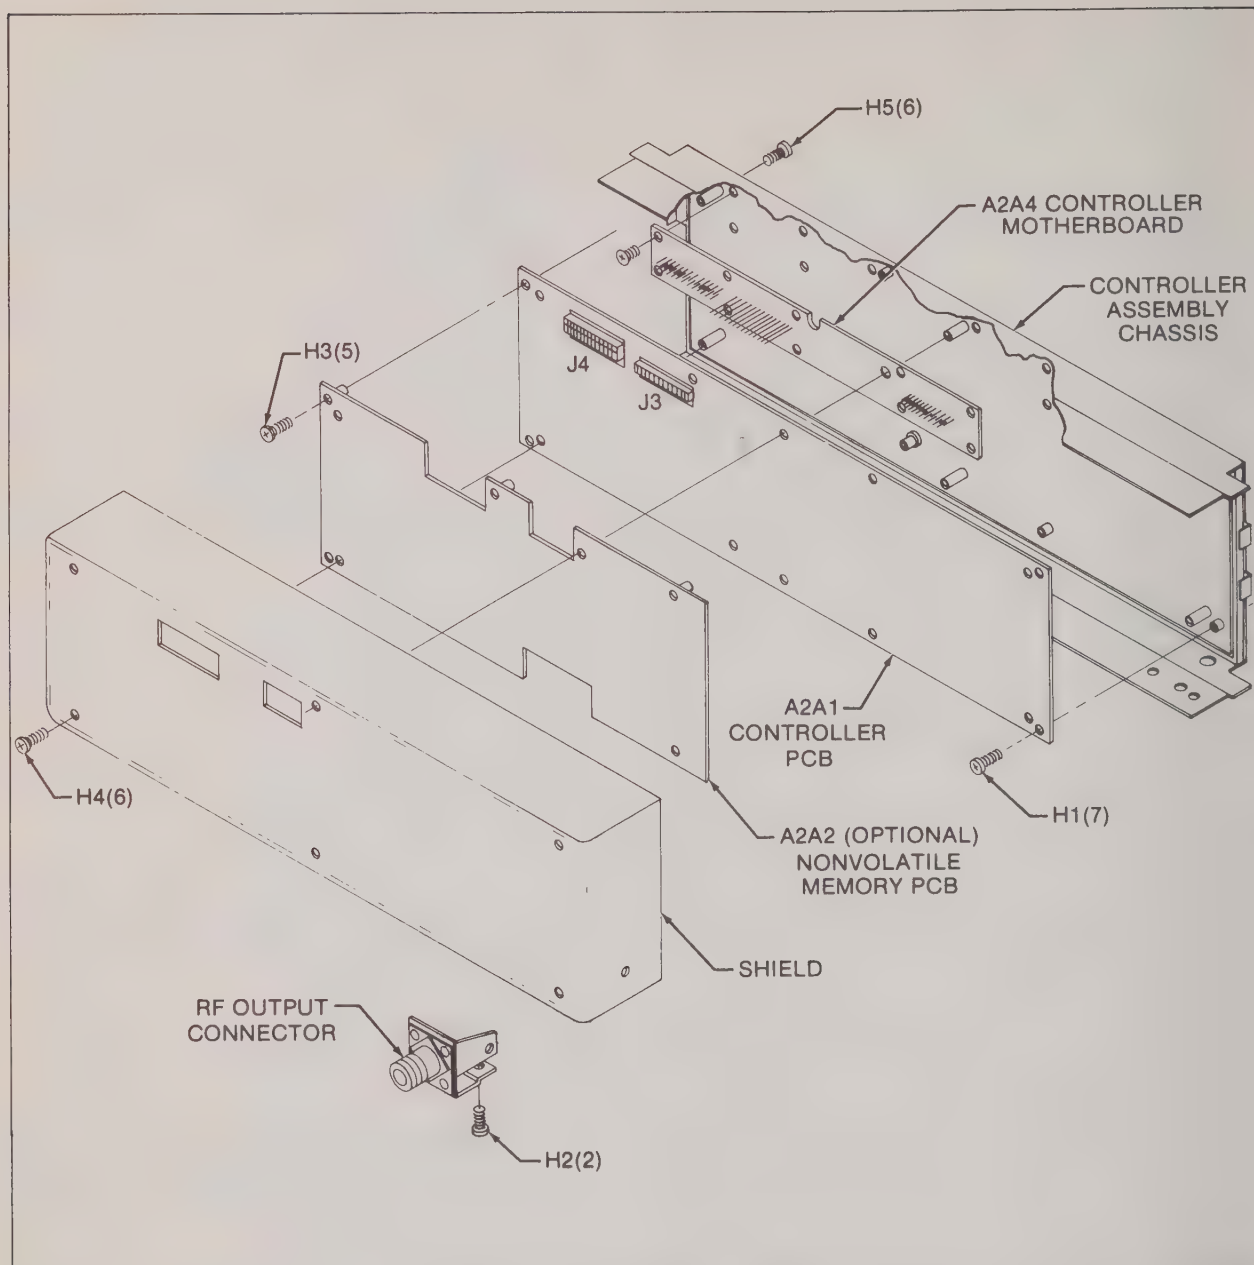

Figure 3-16. Controller Assembly
3. Disconnect the cables from J3 and J4 on the Controller Assembly (Figure 3-16).
4. Remove the RF OUTPUT connector from Controller Chassis Assembly (Figure 3-16).
5. Remove the six screws (H4) from the shield and lift the shield away from Controller Assembly (Figure 3-16).
6. If the unit contains the accessory A2A2 Nonvolatile Memory PCB, remove the five screws (H3) that secure the A2A2 Nonvolatile Memory PCB and remove the circuit board (Figure 3-16).
7. Remove the seven screws (H1) from A2A1 Controller PCB and remove the circuit board from the Controller Chassis (Figure 3-16).
8. Remove the six screws (H5) from the A2A4 Controller Motherboard and remove the motherboard from the Controller Chassis Assembly (Figure 3-16).
2. Insert the A2A1 Controller PCB into the Controller Chassis Assembly and secure it using the seven screws (H1) removed in the disassembly procedure (Figure 3-16).
3. If the unit is supplied with the optional accessory A2A2 Nonvolatile Memory PCB, install the A2A2 PCB in place, and secure it using the five screws (H3) removed in the disassembly procedure (Figure 3-16).
4. Install the shield and secure it using the six screws (H4) removed in the disassembly procedure (Figure 3-16).
5. Install the RF OUTPUT CONNECTOR to the Controller Assembly Chassis and secure it using the two screws (H2) (Figure 3-16) removed in the disassembly procedure (Figure 3-16).